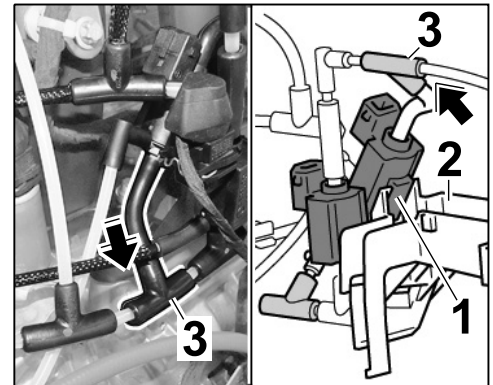

Figure 22
- 3.2.5 Fit change-over valve for sport exhaust system ⇒ *Figure 22-1-* on the holder ⇒ *Figure 22-2-*. Fit vacuum hoses at least 10 mm into the T-piece ⇒ *Figure 22 -1-* (⇒ *Figure 22 -arrows-*).
Insert 50-mm vacuum hose and 60-mm vacuum at least 10 mm into the T-piece ⇒ *Figure 22-3-* (⇒ *Figure 22 -arrows-*).